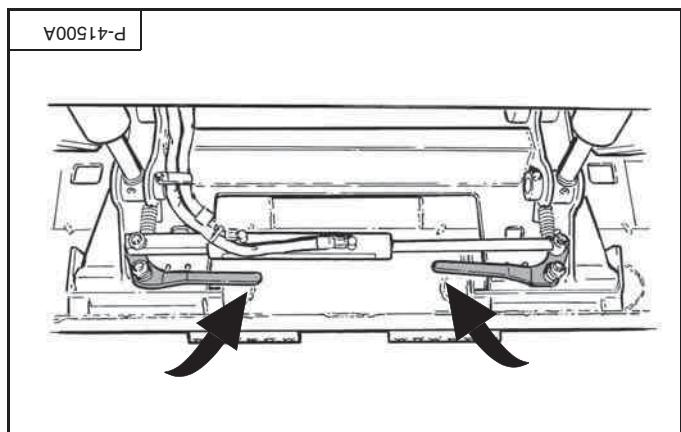
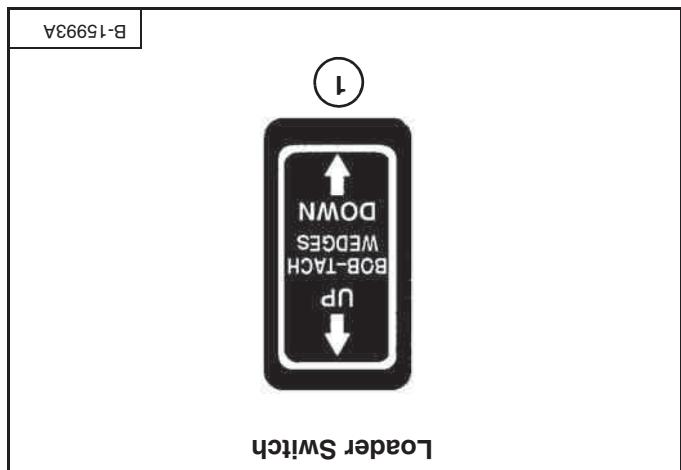

Figure 9
Figure 8
Push and hold the BOB-TACH "WEDGES DOWN" switch (item 1) [Figure 8] until the levers are fully engaged in the locked position [Figure 9] (wedges fully extended through the attachment mounting frame holes).